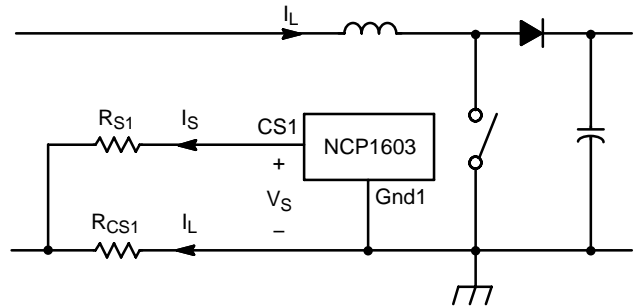

Figure 64. Current Sense in PFC Section
The PFC section senses the inductor current I_L by the current sense scheme in Figure 64. This scheme has the advantages of: (1) the inrush current limitation by the resistor, R_{CS1} , and (2) the overcurrent protection and zero current detection implemented in the same pin.
Inductor current I_L passes through R_{CS1} and creates a negative voltage. This voltage is measured by a current I_S flowing out of the CS1 pin (Pin 11). CS1 pin has an offset voltage V_S . This offset voltage is studied in the setting of zero inductor current $I_{L(\text{ZCD})}$ and the maximum inductor current $I_{L(\text{OCP})}$ (i.e., overcurrent protection threshold). A typical variation of offset voltage V_S versus sense current I_S is shown in Figure 35. Based on Figure 64, Equation 20 is derived.